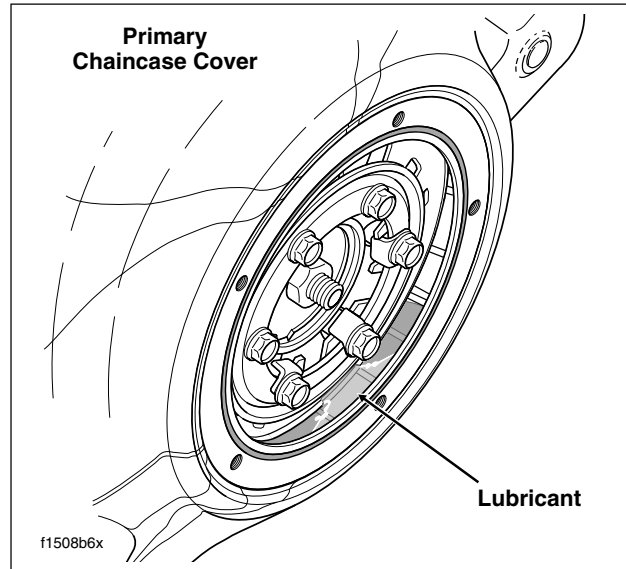

Figure 6-24. Fill Primary Chaincase With Lubricant
6. Pour 32 ounces (946 ml) of Harley-Davidson PRIMARY CHAINCASE LUBRICANT through the clutch inspection cover opening, Part No. 99887-84 (quart) or Part No. 99886-84 (gallon). See Figure 6-24.